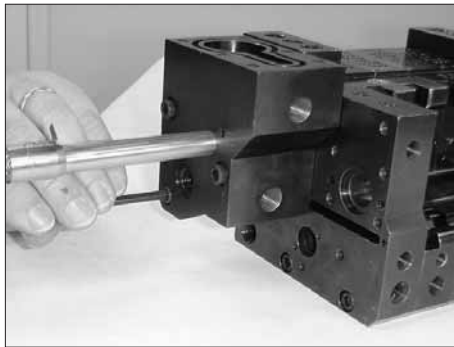

Figure 7-65 Installing the filter block base
1. See Figure 7-65. Using the heater as an alignment tool, attach the filter block base to the applicator using an M5 hex wrench. Tighten the bolts to 12.4 N•m (110 in.-lb).